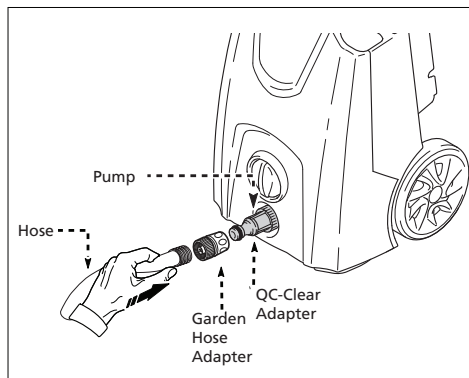

Fig. 15
- Install the garden hose adapter (GHA) and quick connect filter. First, remove the plastic shipping cover on the water inlet on the front of the power washer. Attach the clear plastic adapter by screwing it into the water inlet (**Fig. 15**).